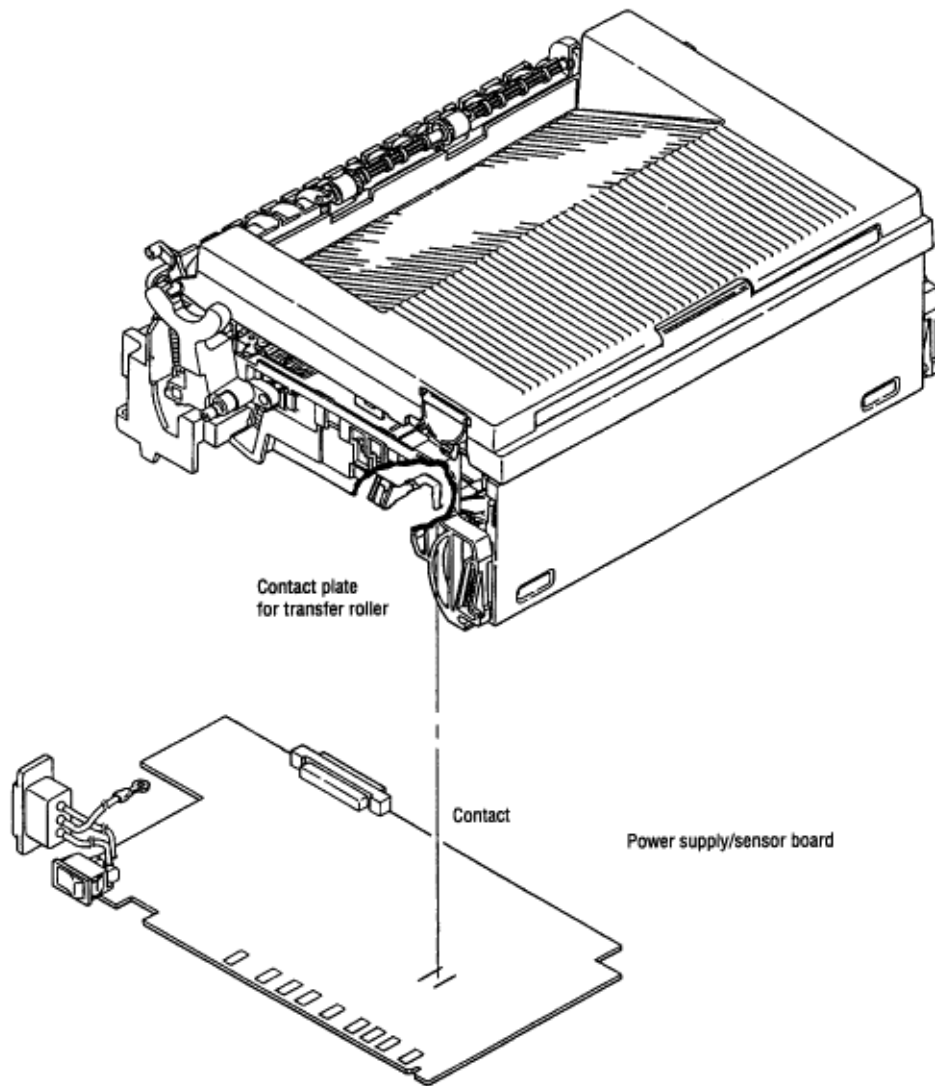

Figure 6-5
• Is the contact plate of the transfer roller in proper contact with the power supply/sensor board (see Fig. 6-5)?
↓ No Is the contact plate of the transfer roller in proper contact with the power supply board (see Fig. 6-5)?